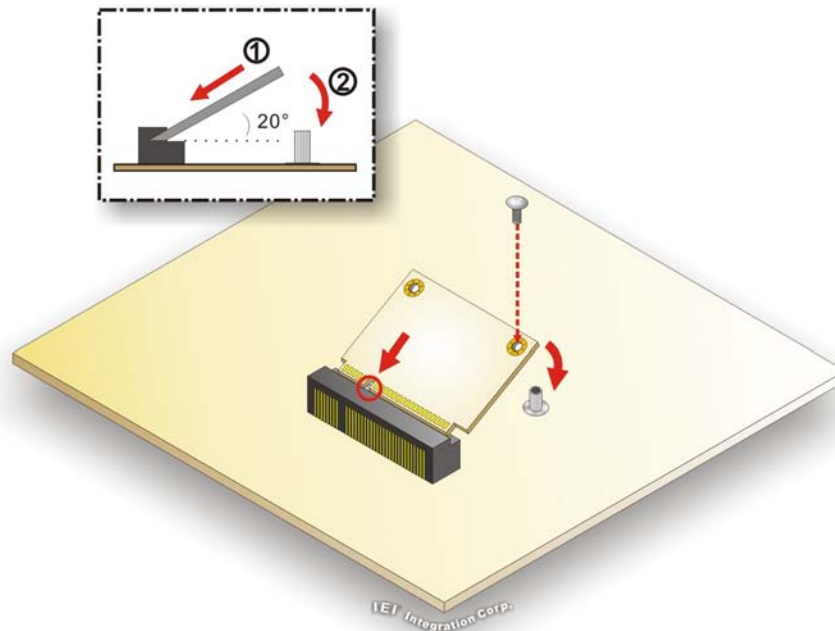

Figure 4-7: Inserting the mSATA Module into the Slot at an Angle
Step 3: Insert into the socket at an angle. Line up the notch on the mSATA module with the notch on the slot. Slide the mSATA module into the socket at an angle of about 20° (**Figure 4-7**).
Step 4: Secure the mSATA module. Secure the mSATA module with the retention screw previously removed (**Figure 4-7**).